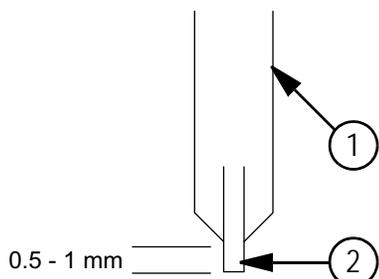

Figure 7-5 Electrode tip extension adjustment
- Adjust the black electrode adjustment nut on the top of the probe to extend or retract the electrode tip. The electrode tip should extend between 0.5 mm and 1.0 mm from the end of the probe as shown in Figure 7-5.